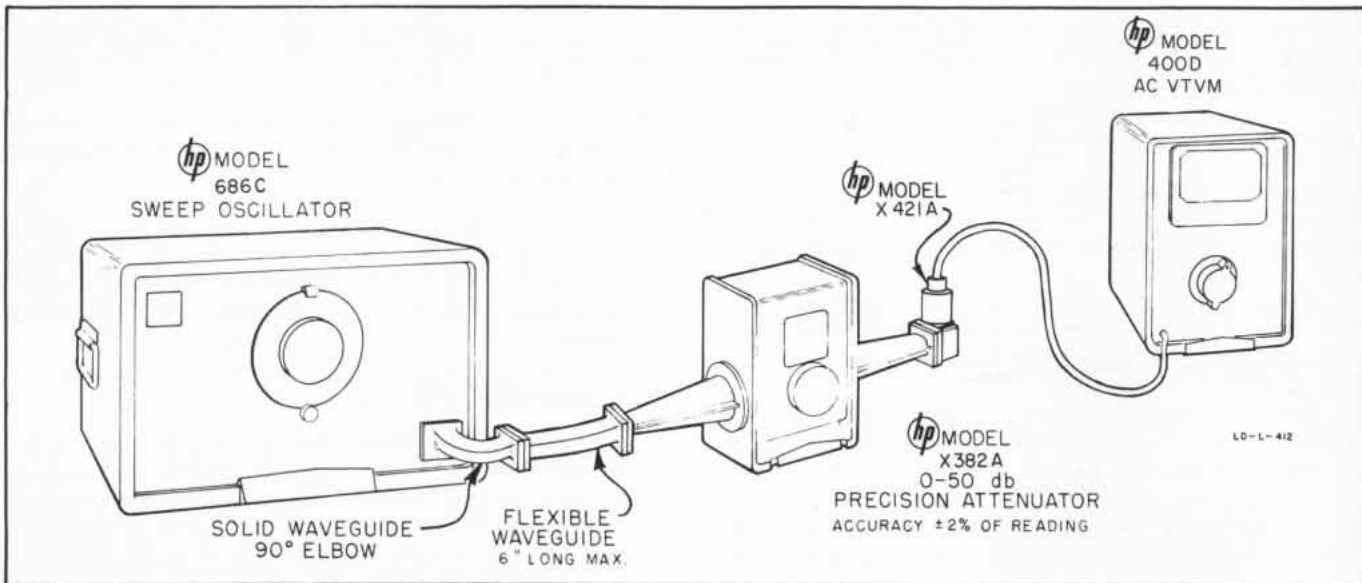

Figure 4-3. Setup for Measuring Residual AM
- 1) Connect equipment as shown in figure 4-3.